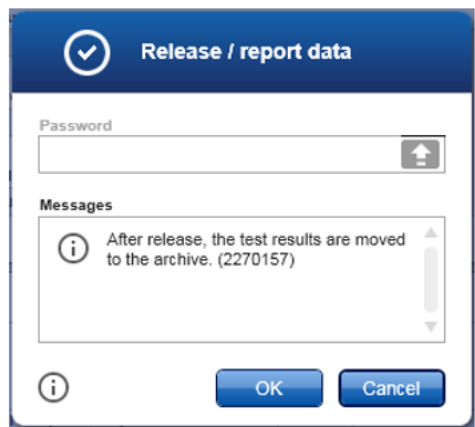

Figure 14. Example of “Release / report data” window.
25. Click **Release / report data**. The Release / report data window will open (Figure 14).